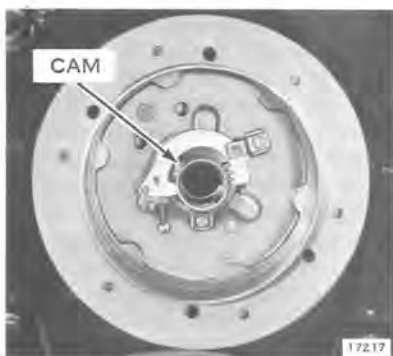

Figure 7-16
- Place Woodruff key in crankshaft keyway. Place cam back in position on flywheel. See Figure 7-16. Carefully place flywheel on crankshaft. When flywheel and cam are properly seated, outer edge will be approximately 1/32 inch above shoulder on crankshaft. DO NOT use force. If it is impossible to position flywheel properly, remove it and repeat above procedure.